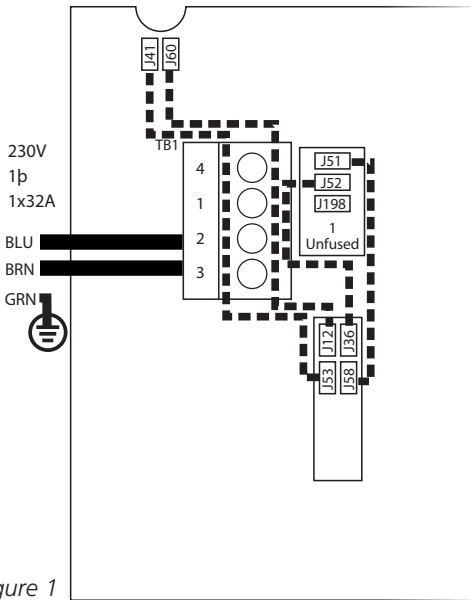

Figure 1
AS MANUFACTURED – SINGLE SERVICE (Figure 1)
1. Remove all jumper wires as indicated by dotted lines in Figure 1 (previous page).